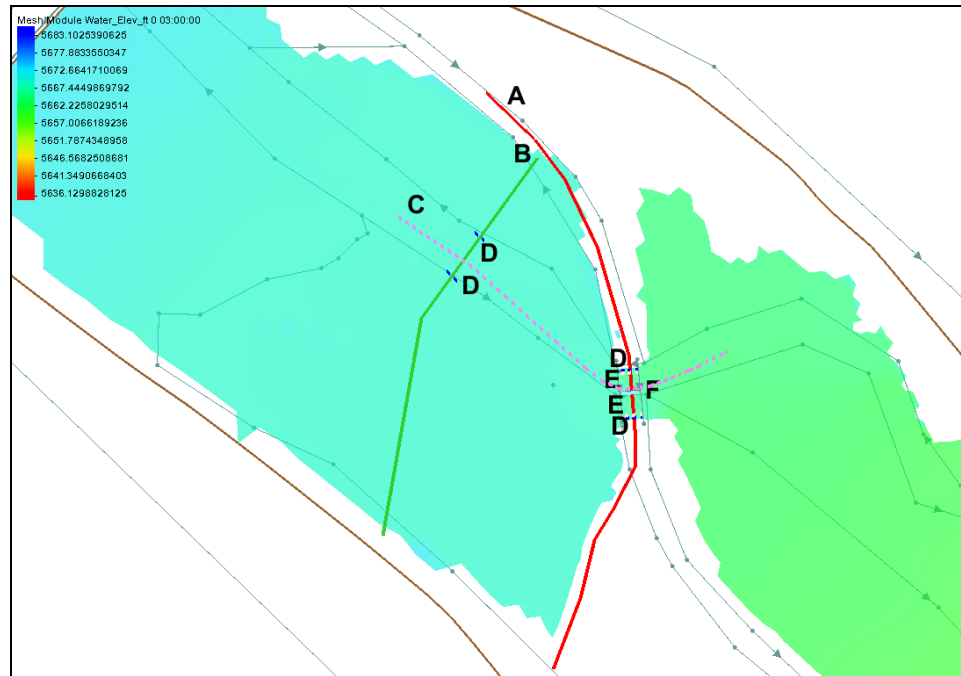

Figure 2 Bridge scour arcs labeled
In order to facilitate quick completion of this tutorial, the Annotations module has been used to create a number of different arcs that can be used as templates for the bridge scour arcs. Simply follow along them when creating each arc in order to create the arcs in the correct locations (Figure 2).
There are six types of bridge scour arcs shown in Figure 2:
3. **Zoom**  in to the area near the bridge, as shown in Figure 2.
4. Starting on the left side of the river (at the end with the “A” at the top of the screen in Figure 2) and using the Annotations arc as a template, use the **Create Feature Arc**  tool to create the contracted section arc as shown in Figure 2. Double-click to end the arc.
1. Using the **Create Feature Arc**  tool, create the approach arc (labelled “B” in Figure 2) from left to right as if looking downstream. Use the Annotations arc as a guide.
1. Using the **Create Feature Arc**  tool, create the centerline arc (labelled “C” in Figure 2) from left to right (upstream to downstream). Use the Annotations arc as a guide.
1. Using the **Create Feature Arc**  tool, create the first bank arc (lower arc labelled “D” crossing the approach arc in Figure 2). Use the Annotations arc as a guide. The arc direction is not important.
2. Repeat step 1 for each of the other three bank arcs (labelled “D” in Figure 2). Use the Annotations arc as a guide.
2. Using the **Create Feature Arc**  tool, create the top abutment toe arc (upper arc labelled “E” in Figure 2). Use the Annotations arc as a guide. The arc direction is not important.
1. Using the **Create Feature Arc**  tool, create the pier arc (“F” in Figure 2). Use the Annotations arc as a guide. The arc direction is not important.